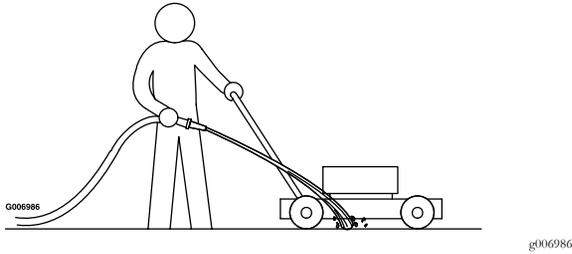

Figure 30
- Hold the running garden hose at handle level and direct the water to flow on the ground just in front of the right rear tire (Figure 30).